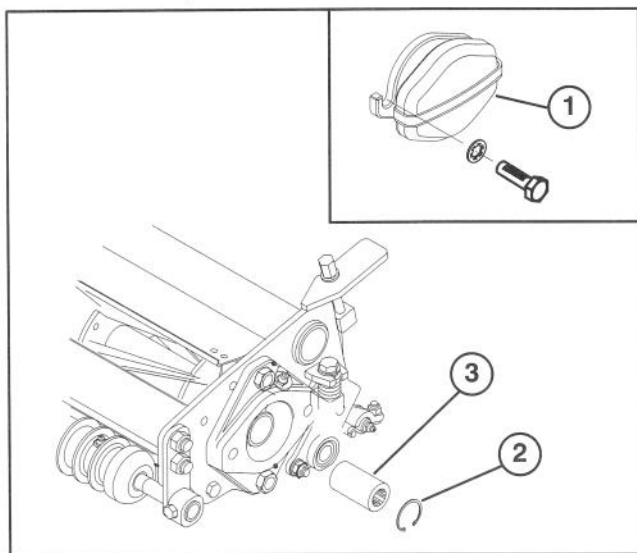

Figure 7
- A. Remove (2) capscrews and lockwashers securing counter weight to left end of cutting unit. Remove counter weight (Fig. 7, inset).